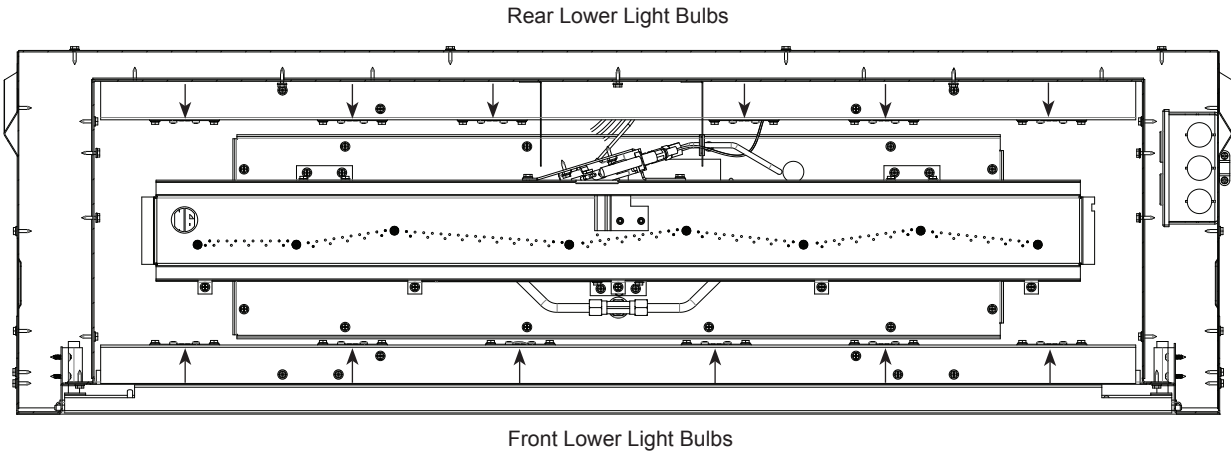

Figure 30 Lower Light Bulb Location
7. Figure 30 shows bulb placement for front and rear light bars. Insert bulbs in sockets.